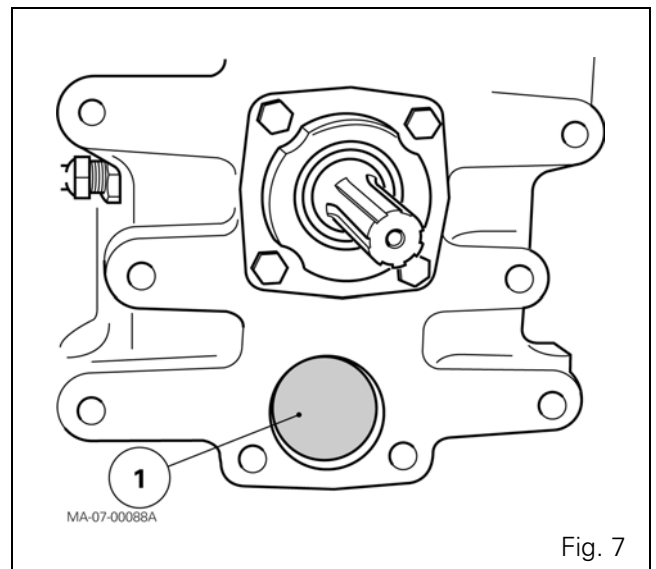

Fig. 7
8. Extract plug (1) (Fig. 7).
9. Take off circlip (2).